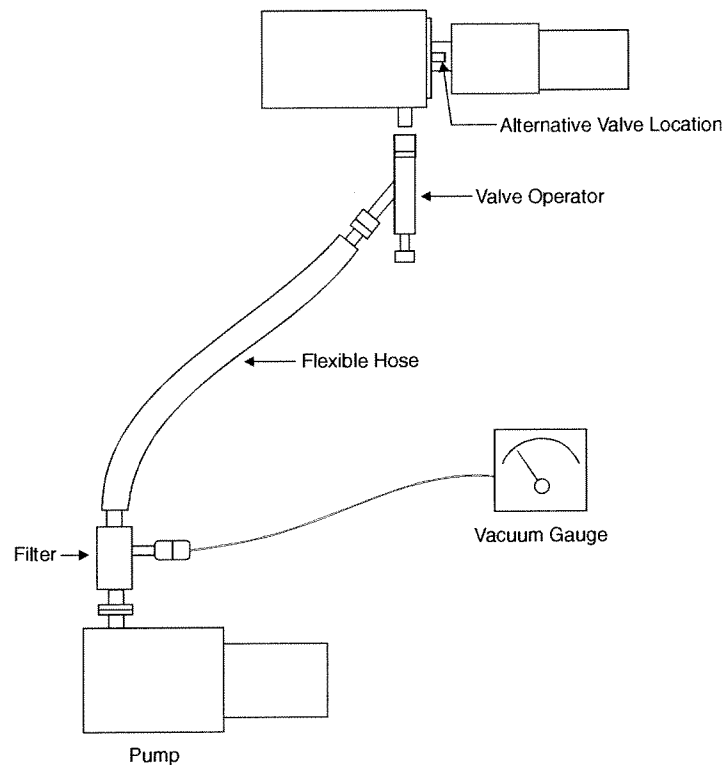

Figure 33 Pump Station
This describes the minimum requirements for a vacuum pump station (Figure 33). A high vacuum pump is preferred if one is available. An LN₂ trapped helium leak detector is an ideal pump station.
6. With the vacuum pump connected to the valve operator by means of the flexible metal hose, as shown in Figure 33, turn on the vacuum pump and the vacuum gauge.